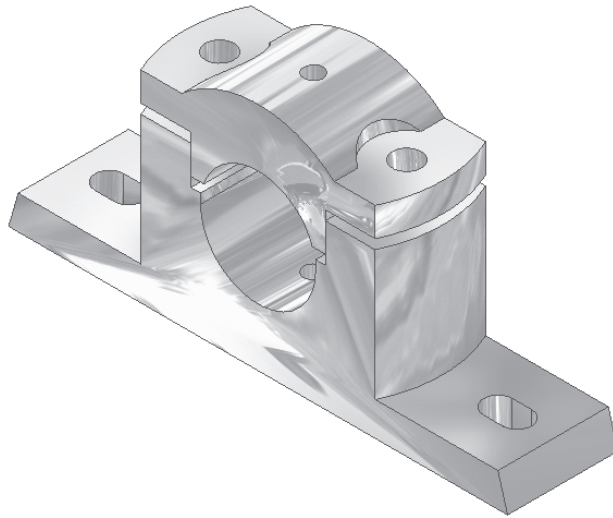

Figure 8-53 Assembly after assembling the Cap with the Casting
9. Select the front face of the Casting as the second face to apply the constraint and then choose the **Flush** button from the **Solution** area. Choose **Apply** and then choose **Cancel** to exit the dialog box. The assembly, after assembling the Cap and the Casting, is shown in Figure 8-53.